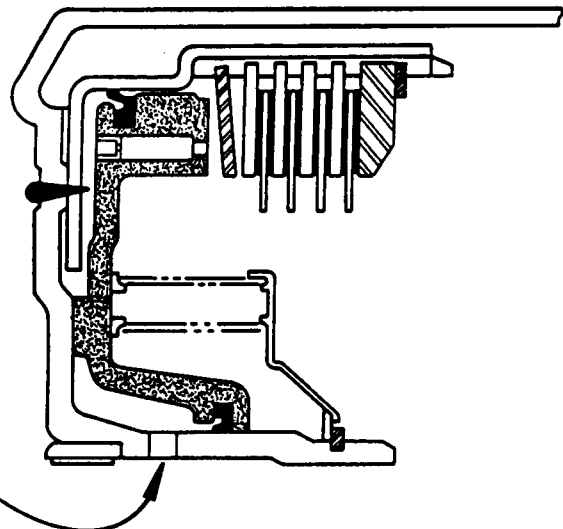

Figure 149
2. Use Figure 149 to identify which of the reverse input housings you have, to ensure proper build content.
14. Alternate friction and steel plates until you have installed 4 friction and 4 steel plates. Refer to Figure 149 for clutch stack-ups to ensure proper build content.